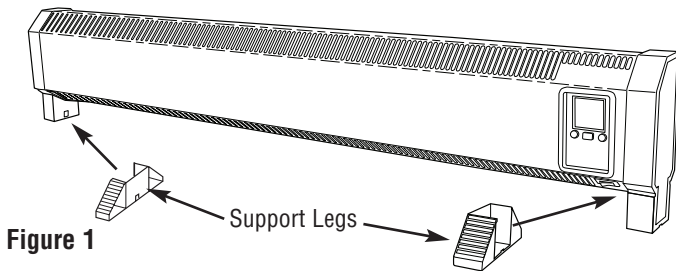

Figure 1
3. Fit left and right support legs onto heater and snap into position as shown in Figure 1.
4. Do not operate heater without support legs attached as shown in Figure 1.